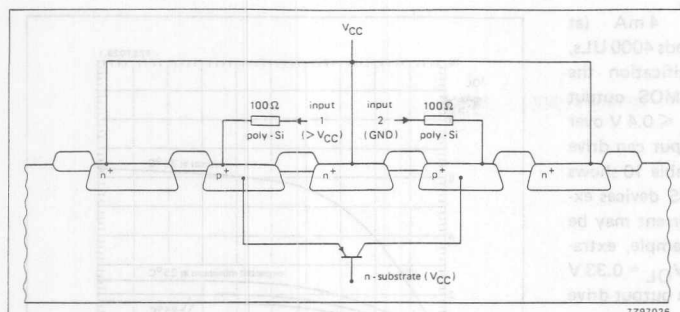
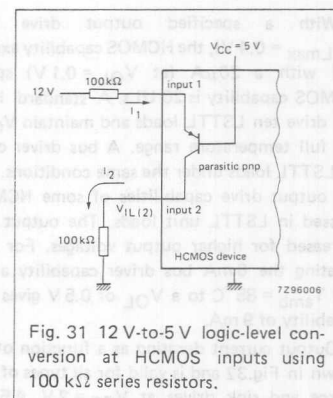

Fig. 30 Cross-section of the input protection of an HCMOS device showing the parasitic pnp transistor between adjacent inputs.
Fig. 31 12 V-to-5 V logic-level conversion at HCMOS inputs using 100 kΩ series resistors.
Parasitic bipolar pnp transistors can be present between adjacent inputs, e.g. between an input protection diode to V_{CC} and the same diode at the adjacent input, as shown in Fig.30. If the recommended operating input voltage is exceeded, perhaps by ringing of more than 0.7 V, current into the terminal (I₁) can cause a current I₂ in the parasitic transistor and in the adjacent input (Fig.31). Because I₂ in the adjacent input has to be drained by the source driving that input, the source resistance (R) must be low. If R is not low enough, the parasitic current can lift the source voltage and cause unwanted switching.
A low α permits proper logic operation in the presence of transients and also allows HIGH-to-LOW voltage translation simply by adding series input resistors. For example, in Fig.31, 12 V system logic is converted to 5 V system logic by adding a 100 kΩ resistor in each input. Since the logic signals are delayed by 1-2 μs, this arrangement is suitable for rather slow 12 V control logic such as that in automotive applications. When the input diodes are used as clamps for logic level translation, the total input current should be limited to 20 mA.